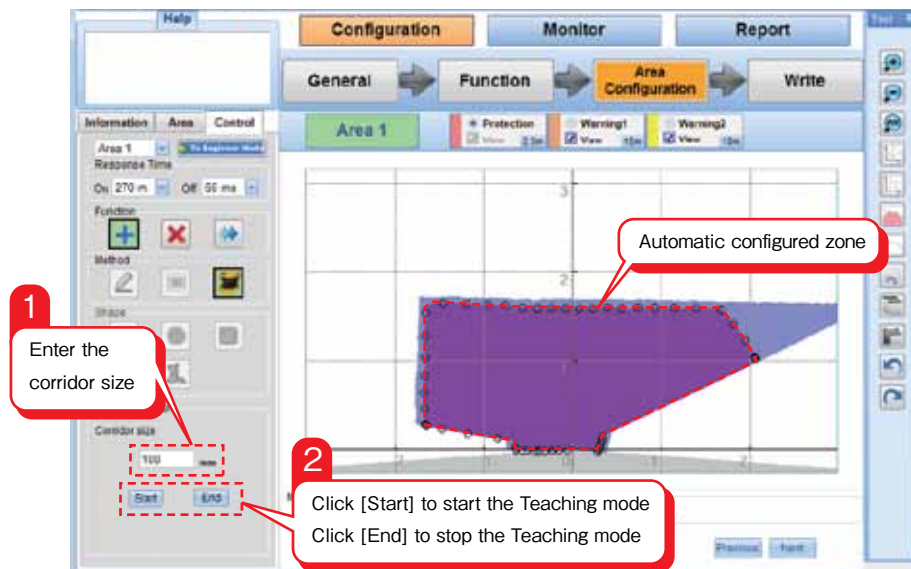

Figure 7-43. Teaching
- Click [Start] to enable the automatic zone configuration. Click [End] to terminate the automatic zone configuration. Surrounding boundaries are detected and will be shown including the corridor size (Figure 7-43).